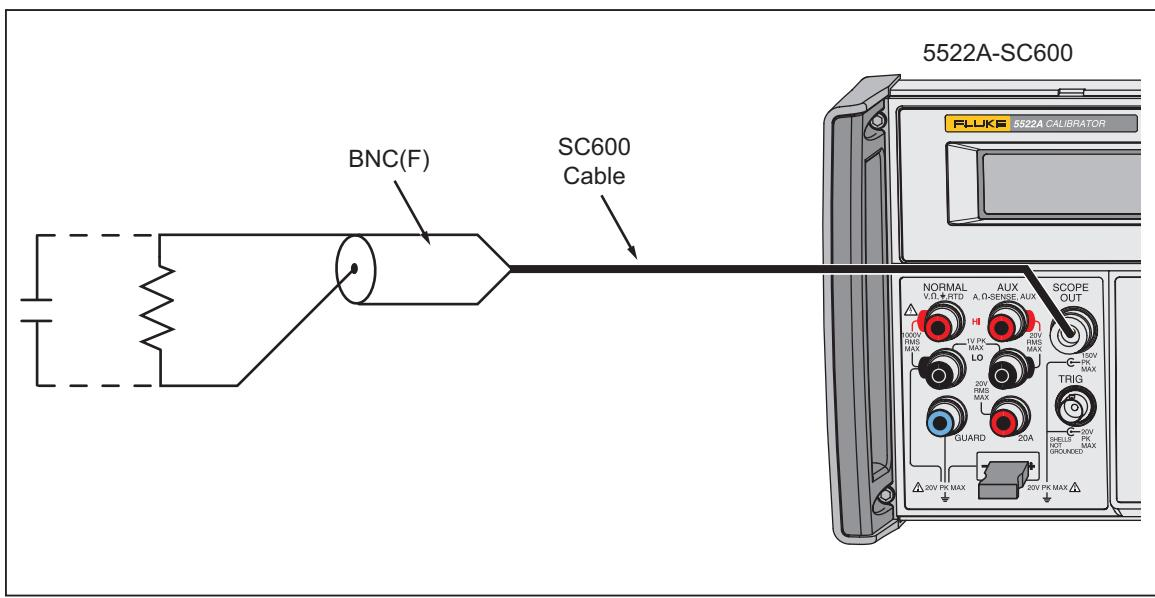

Figure 6-6. MeasZ Calibration Connections
1. Connect the equipment as shown in Figure 6-6.